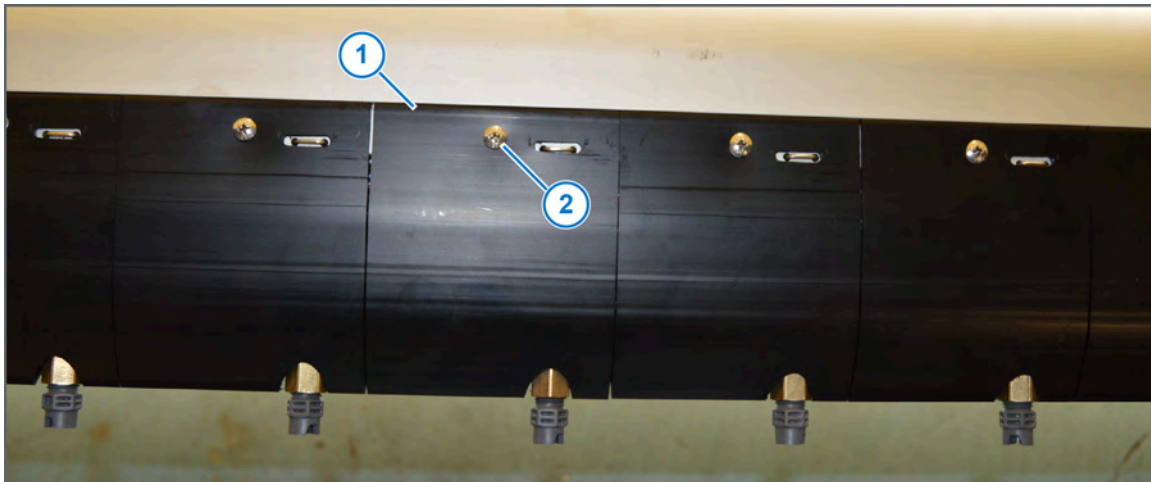

Figure 9: Remove the Shells
16. On the shell(s) (Figure 9, Item 1), where the boom hangers will attach to the booms, loosen the quarter-turn fasteners (Figure 9, Item 2) on both the top and bottom of the shell(s).